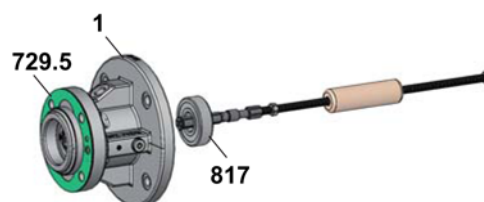

Fig. 15
5. Pull the ball bearing **817** out of the flange cover using a suitable extractor, see Fig. 15.